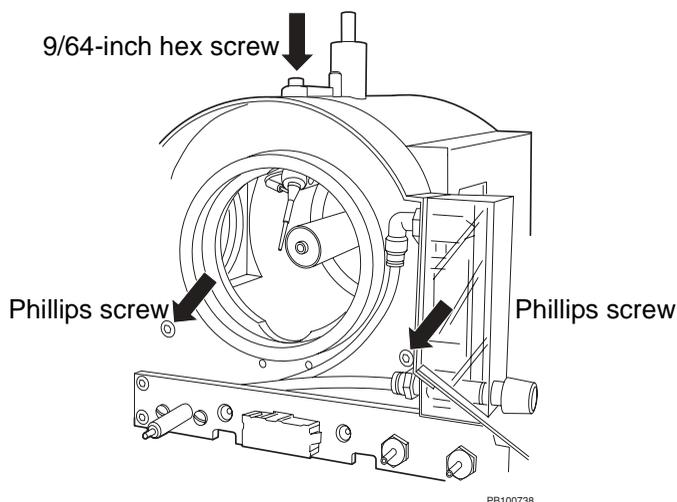

Figure 4-2 Removing the Spray Chamber from the Base
3. Remove the 9/64-inch hex screw holding the spray chamber to the base (Figure 4-2).